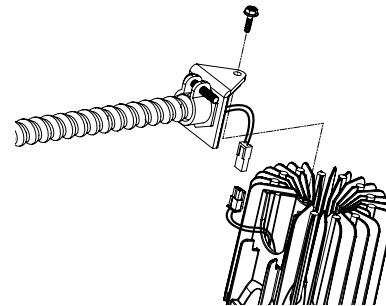

FIGURE 6
- 2. Fasten conduit adapter to trim housing using the screw provided (see Figure 6).
- 2. Disconnect conduit adapter by loosening screw. (See Figure 6)
- 4. Remove (4) screws and remove adjustment ring.
2. Disconnect conduit adapter by loosening screw. (See Figure 6)
4. Remove heatsink from lower housing by removing (3) screws and lifting off.